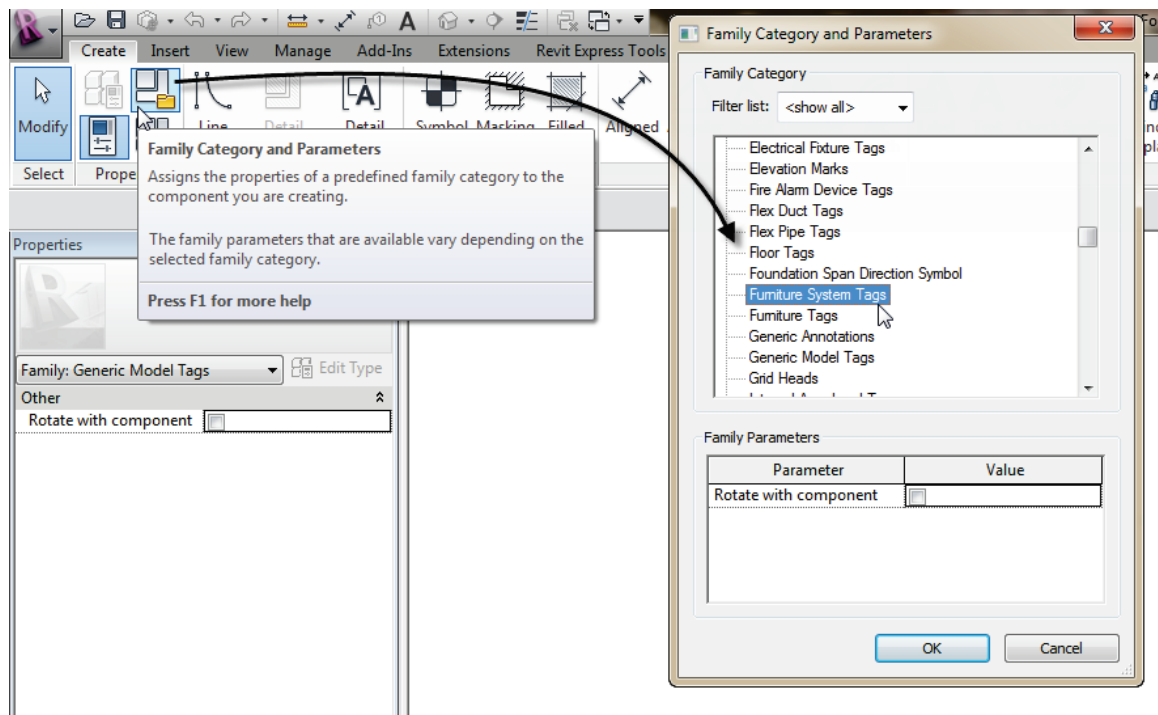

Figure 6—Change the Category of the Tag
4. Choose the appropriate category for your tag. In this example, we'll choose Furniture System and then click OK (see Figure 6).